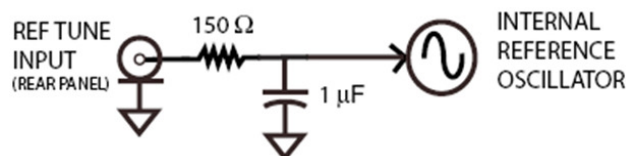

Figure 43: Ref Tune Input Circuit
- The Ref Tune input is a high impedance input and has a 3 dB bandwidth of approximately 1 kHz that is set by a pole consisting of 150  $\Omega$  and 1  $\mu\text{F}$  as shown in the Figure 43.